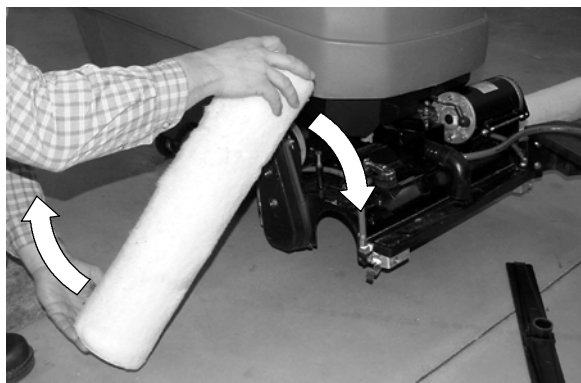

FIG. 32
1. Flip the ReadySpace rollers end-for-end every 10 hours of use (Figure 32). The roller life is rated for at least 100 hours of use under normal cleaning conditions. If the gap between the two rollers is greater than 4mm replace the rollers.
3. Remove the four quick-release spray tips from the scrub head (Figure 32). Turn spray tip caps counter-clockwise to remove. Soak the tips and screens in an acetic acid solution for up to six hours (Figure 39). Follow the mixing directions on the bottle. Do not use pointed objects to clean tips, damage will occur.